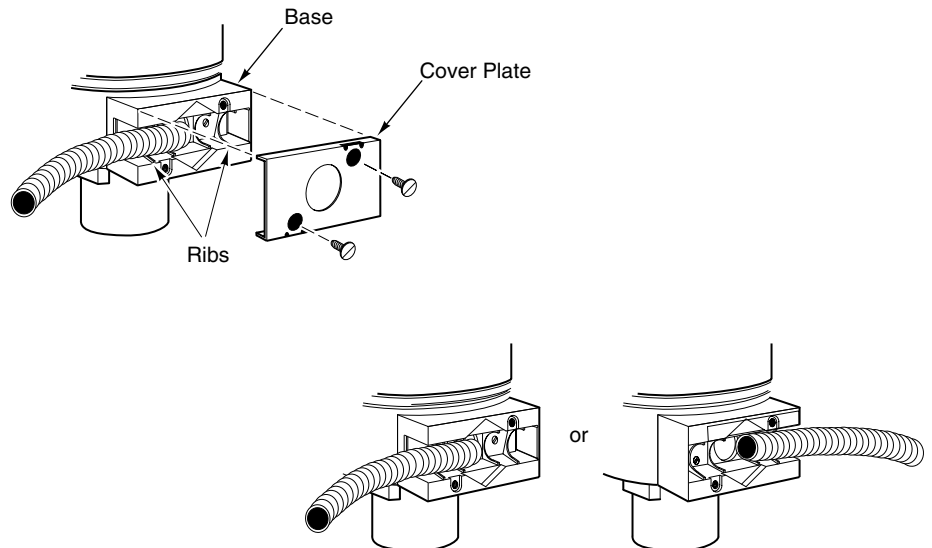
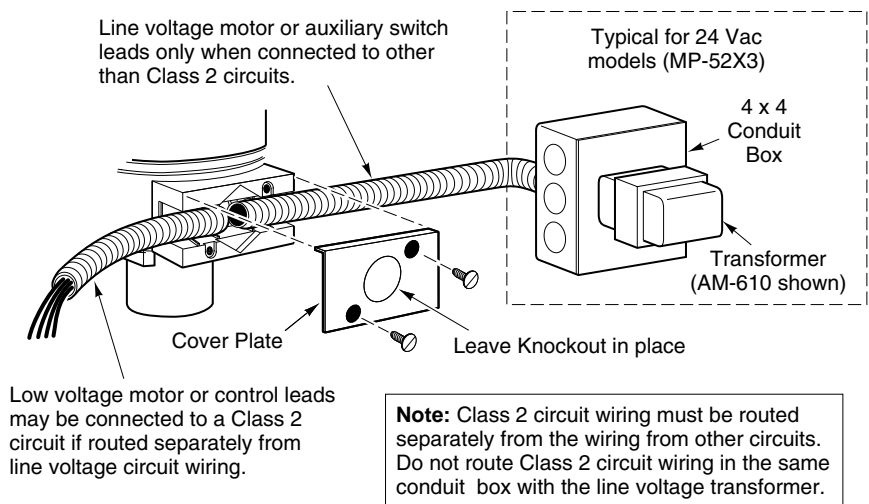

Figure-8 Flexible Conduit Installation to Either Side of Actuator.
Figure-9 MP-5200 Series Wiring with Separation for Line Voltage and Class 2 Circuits.
The control leads may be connected to a Class 2 circuit if routed separately from Class 1 circuit wiring. Refer to Figure-9.
The low voltage (24 Vac) power leads may be connected to a Class 2 circuit if routed separately from Class 1 circuit wiring. Refer to Figure-9. Line voltage power leads must be connected to a Class 1 circuit.
Flexible conduit may be installed onto one or both sides of the actuator (refer to Figure-8 and Figure-9). Install each conduit as follows:
4. Slip the conduit onto the base, over the ribs. Refer to Figure-8 and Figure-9.